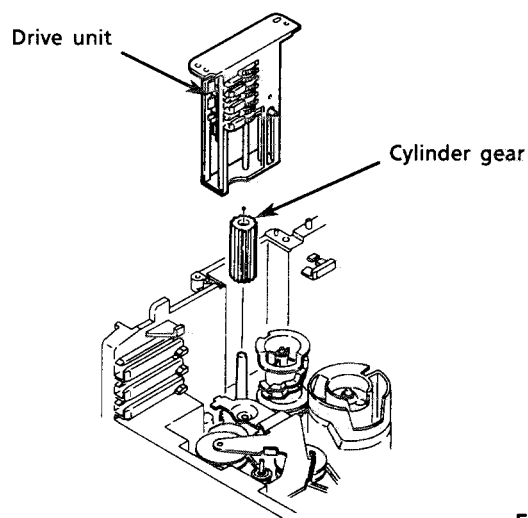

Fig. 34
3. Remove the drive unit and cylinder gear. (See Fig. 34.)